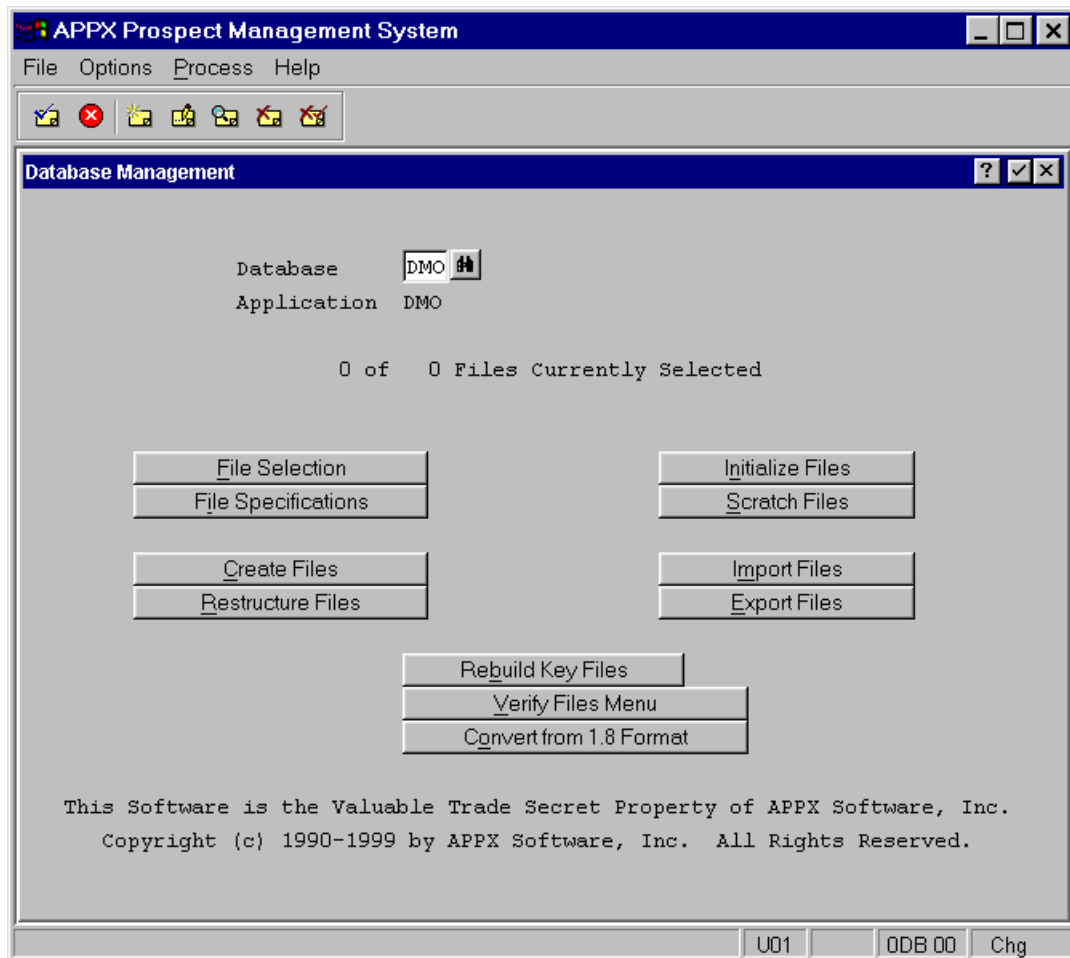

Figure E1.17 – Database Management Screen Before Selecting Files
- The **Database Management** screen is presented (*Figure E1.17*).